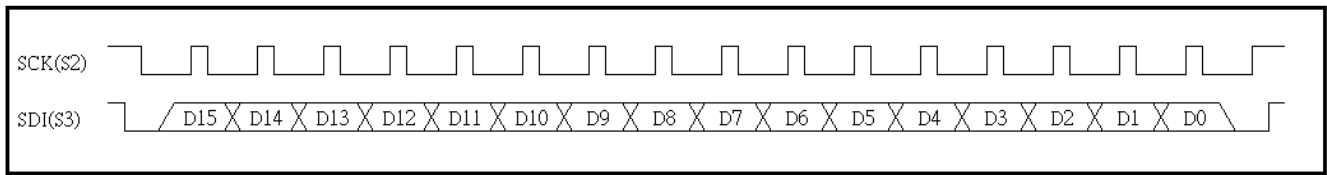

Fig.14 I2C Command timing
- a. Command timing reference Fig.14 I2C Command timing.